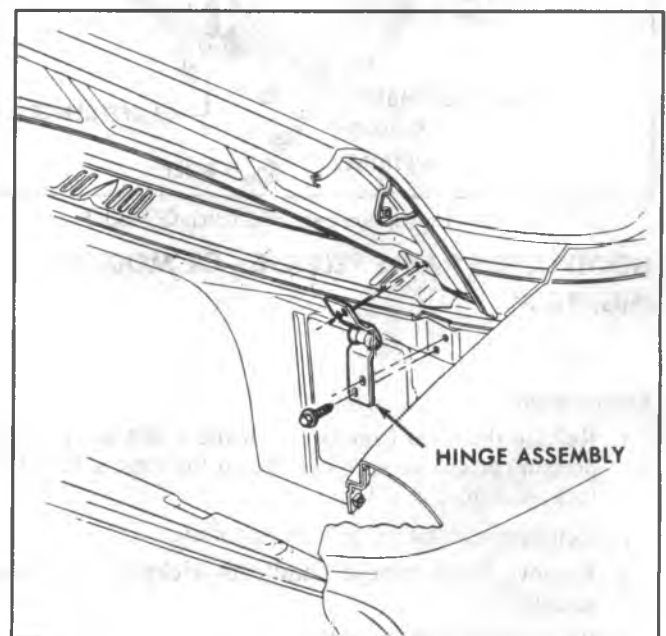

Fig. 2C-5-Hood Hinge-G Model
1. Adjust lock bolt as shown in Fig. 2C-7.